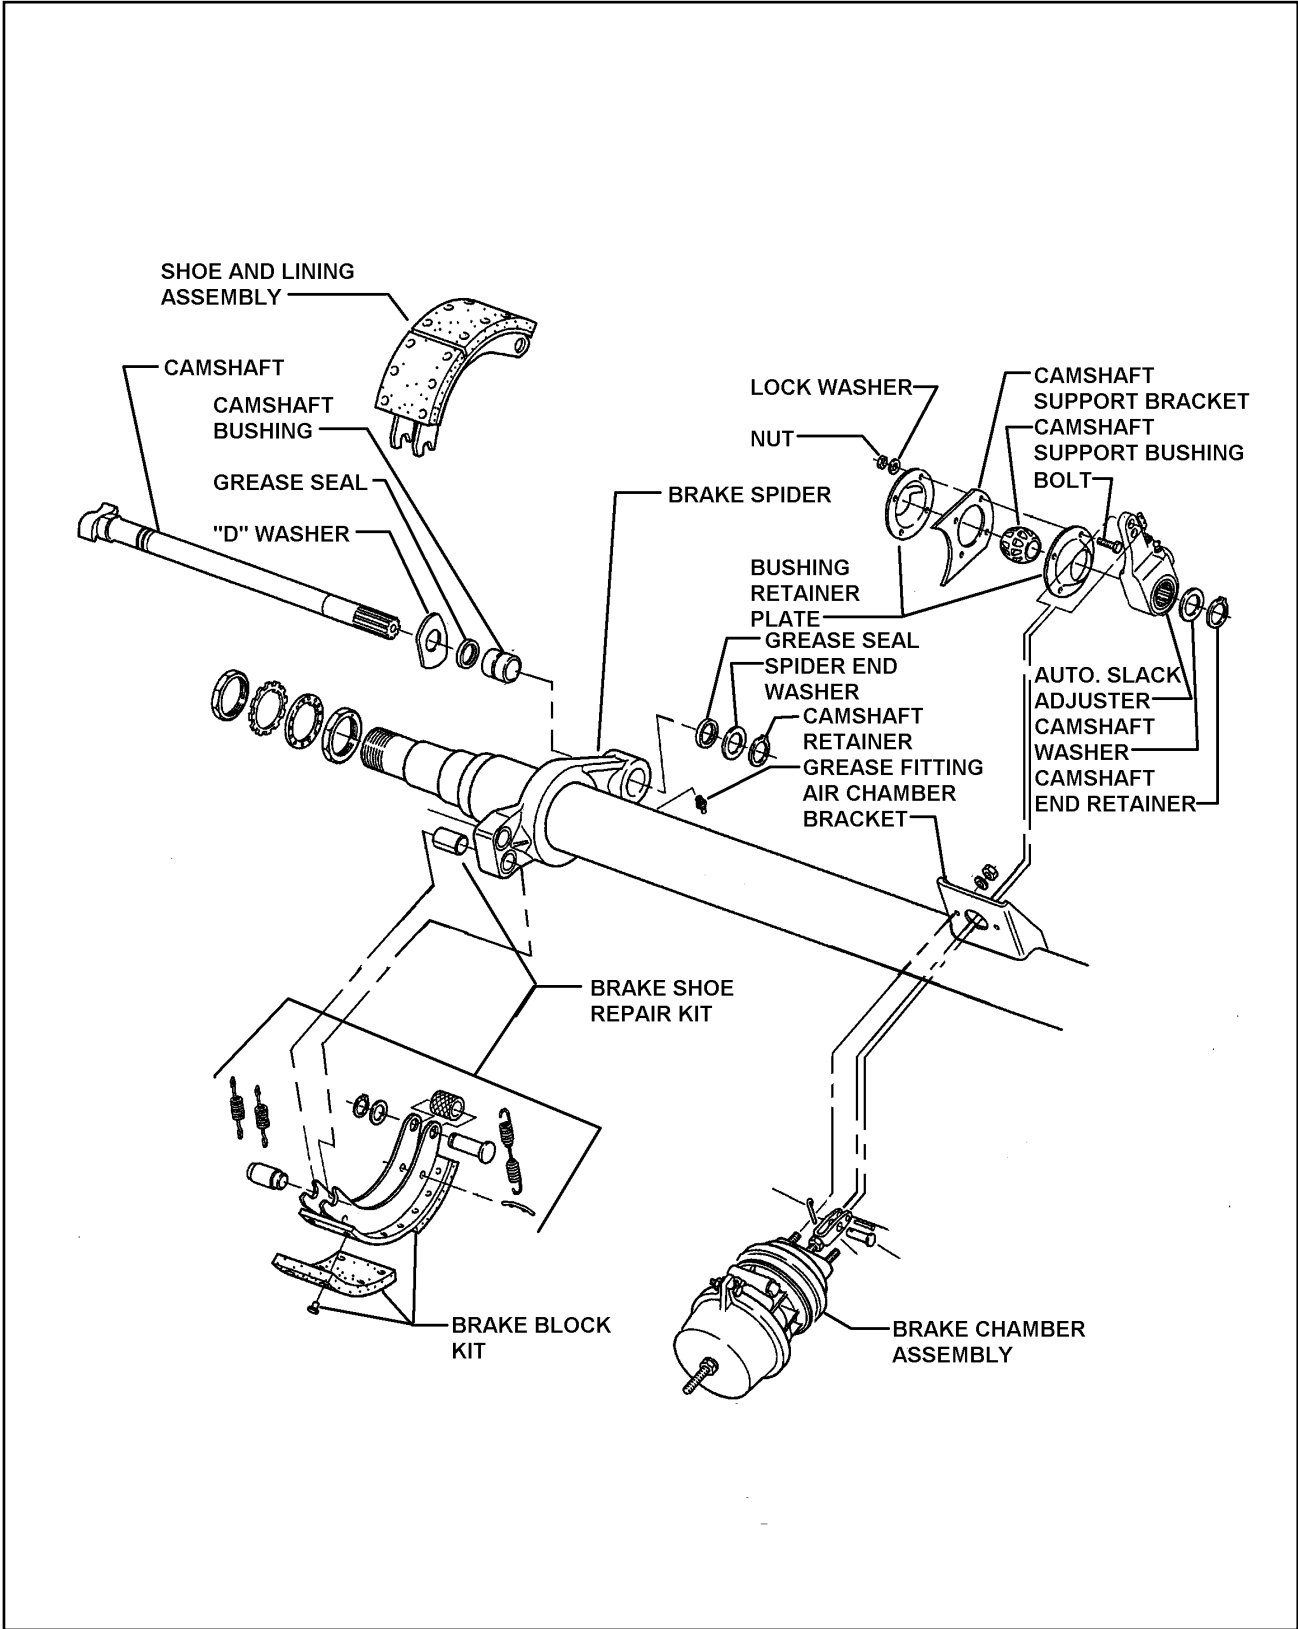

Figure 4-3 Axle and Brake Assembly
b. Disassembly for Brakes (See Figure 4-3)
c. **Reassembly for Brakes (See Figure 4-3)**